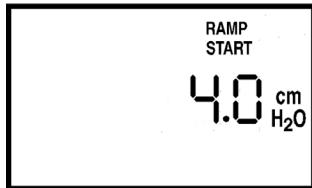

Figure 6–10 Ramp Start Setting Screen
1. From either the Monitoring or Standby screens, press the **Right User** button until the Ramp Start Setting screen appears, as shown in Figure 6–10.